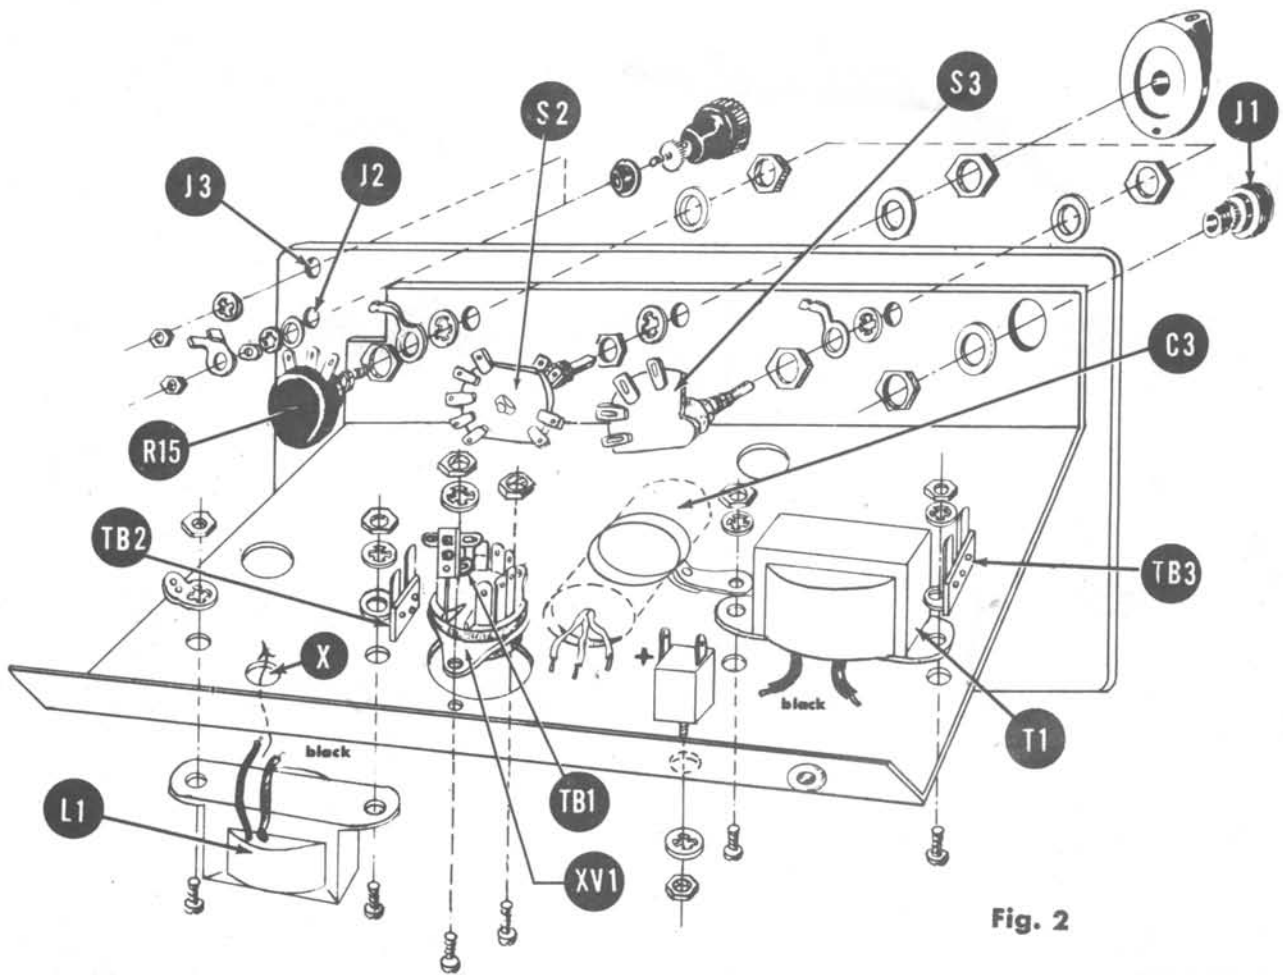

Fig. 2
- ( ) Fig. 2. Mount the power transformer T1 to the chassis. Along with it mount the 2X20 electrolytic capacitor C3 and the 1 post right w/gnd terminal strip TB3. Use 2 #6-32 X 1/4 screws, 2 #6 lock washers, and 2 #6 hex nuts.
- ( ) Fig. 2. Mount the selenium rectifier CR1, positioning it with the positive terminal as shown. Use 1 #6 lock washer, and 1 #6 hex nut.
- ( ) Fig. 2. Mount the 9-pin miniature socket XV1, positioning it with the blank (no pin) sector as shown. Along with it mount terminal strip TB1 (double lug - not grounded). Use 2 #4-40 X 1/4 screws, 2 #4-40 hex nuts, 1 lock washer, and 1 ground lug.
- ( ) Fig. 2. Mount a.f. resonating choke L1 to the chassis, first passing the 2 black leads through hole "X". Along with it mount the 2 post terminal strip TB2. Use 2 #6-32 X 1/4 screws, 2 #6-32 hex nuts, 1 #6 lock washer, and 1 ground lug.
- ( ) Fig. 2. Mount the male amphenol connector J1 (RF OUT) to panel and chassis using the hardware shown.
- ( ) Fig. 2. Mount the 250K $\Omega$  AF/MOD OUT potentiometer R15 to panel and chassis, using 2 - 3/8 hex nuts, 1 - 3/8 lock washer, 1 ground lug, and 1 panel washer. The inside hex nut should be used as a back-up nut so that the potentiometer bushing does not extend past the outside nut.
- ( ) Fig. 2. Mount the RF COARSE switch S3 to panel and chassis using the same hardware as above including the ground lug. Note the positioning of S3 in the drawing and observe it in the mounting. Do not tighten outside hex nut finally as yet.
- ( ) Fig. 2. Mount the SIGNAL SEL. switch S2 to panel and chassis using the same hardware as above but no ground lug. Note the position of S2 in the drawing and observe it in the mounting. Here also do not tighten the outside hex nut
- ( ) Fig. 2. Place the panel and chassis on its side. Use a pair of pliers to turn the shafts of both the SIGNAL SEL. switch S2 and the RF COARSE switch S3 to the furthest counter-clockwise position. Next orient switch S2 so that the flat on the shaft faces away from the POWER OFF position and tighten the panel nut finally. Now orient switch S3 so that the flat on the shaft faces away from the LO position and then tighten the S3 panel nut finally. The assembly of panel to chassis is now completed.
- ( ) Fig. 2. Mount the AF IN/OUT binding posts J2 and J3 on the panel. Note that J2 is insulated from the panel and that J3 is not insulated. Use 1 #8 fibre shoulder washer (for insulation), 1 #8 fibre flat washer, 1 #8 lock washer, 1 #8 lug, and 2 #8 hex nuts to mount J2 and the same hardware less the fibre flat washer and the lug to mount J3.
- ( ) Fig. 2. Install the 3/8" rubber grommet in the hole provided in the rear chassis apron. Squeeze the grommet into oval shape to start it in the hole and then work it in completely with a small screwdriver.